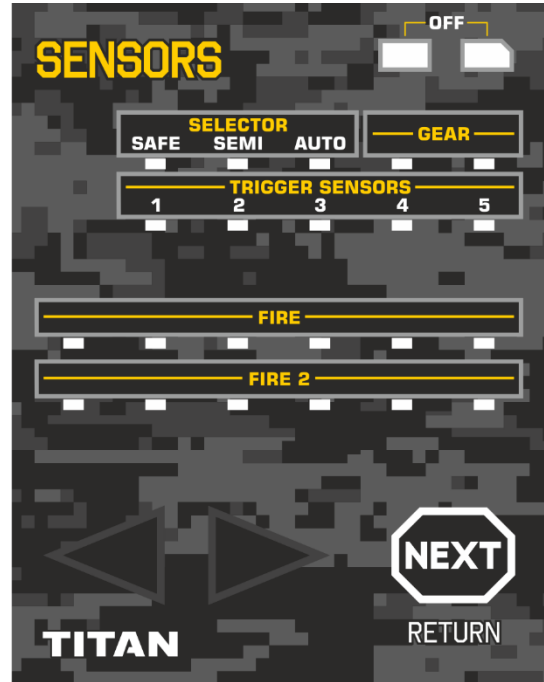

Fig.5
- **SENSORS** – display with sensors (Fig.5),
- When the icons **A** and **B** are OFF, the **SENSORS display** is activated. Check the sensors' state only on the SENSORS display's cover of the TPC (Fig.5).